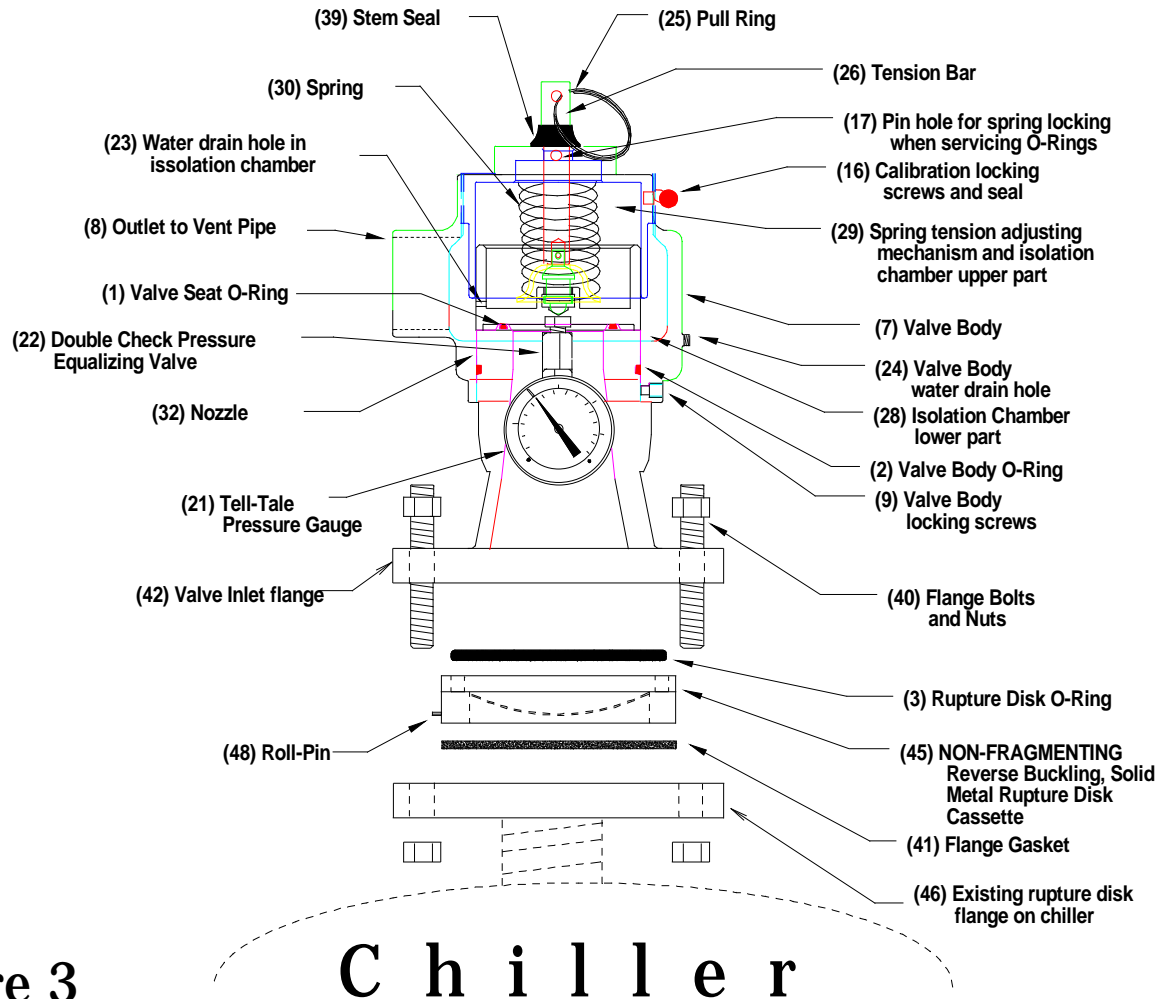
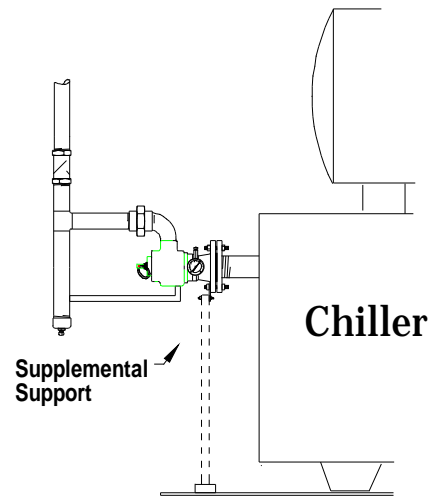

Figure 3
Figure 7 - Supplemental Support
See Figures 3 on Page 9 and 6 on Page 10 for location of parts on assembled unit.
1. Determine the best mounting arrangement for the **RuptureSeal™** in relation to the chiller's existing relief outlet and vent piping. Also determine if supplemental support for the valve will be necessary (see Figure 7 on page 10). Note that the valve body can be rotated 360° to orient the outlet to the vent pipe. To rotate the valve body, loosen (do not remove) the five (5) valve body locking screws (see Appendix "C" on page 16 for illustrations). Once in position, re-tighten (do not over tighten) the five (5) valve body locking screws. (See Figure 3 on page 9 for location of locking screws.)
If the **RuptureSeal™** valve is to be mounted in the horizontal position, it is recommended that some type of supplemental support be provided to relieve any stress the valve may put on the chiller's relief stub (see Figure 7). The installer shall determine the best way to provide such supplemental support.